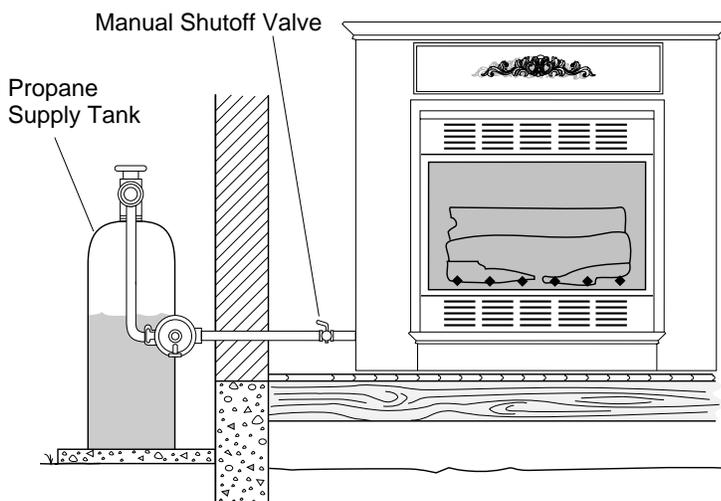

Figure 21 - Checking Gas Joints Shown with Optional Mantel
3. Check all joints from propane supply tank to manual shutoff valve (see Figure 21). Apply mixture of liquid soap and water to gas joints. Bubbles forming show a leak.
4. Check all joints from manual shutoff valve to thermostat gas valve (see Figure 21). Apply mixture of liquid soap and water to gas joints. Bubbles forming show a leak.